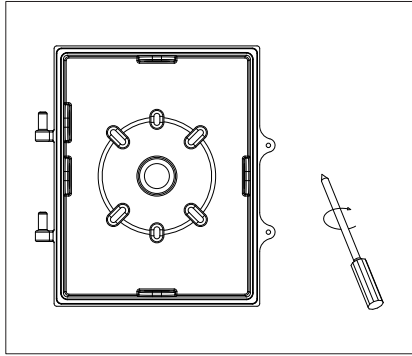

Figure 9
STEP 6: Align the holes on the lamp base with the holes on the wall and tighten the screws (Figure 9)